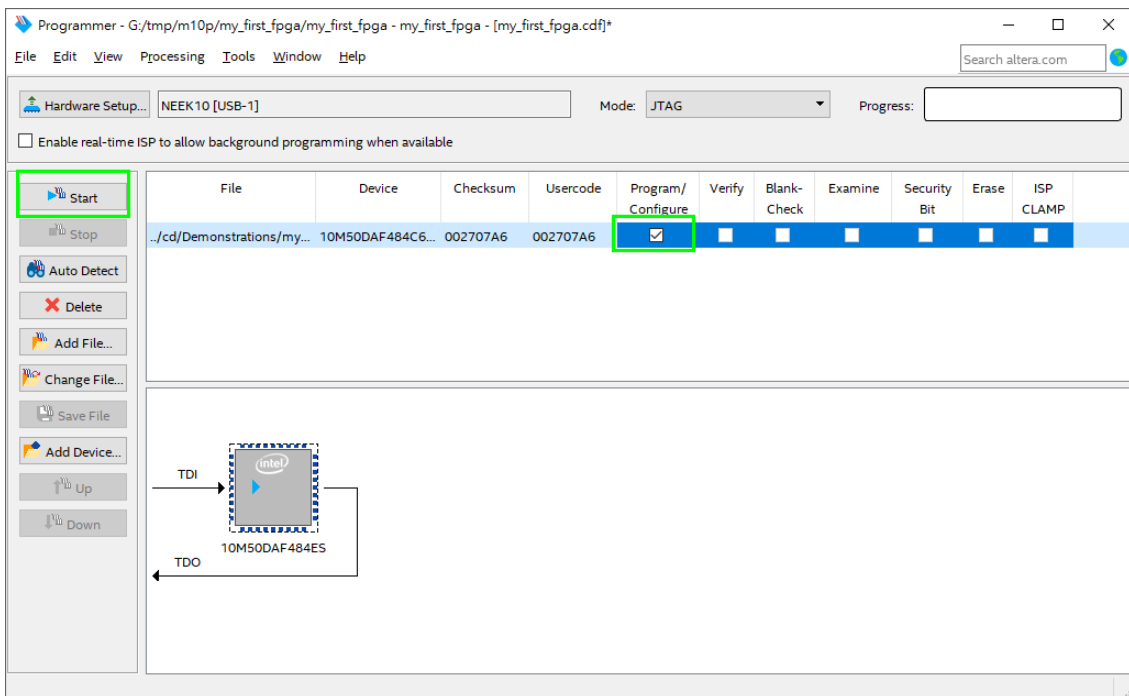

Figure 3-7 Program. sof File into the FPGA Device
6. Click **Program/Configure** check box and then click **Start** button to download the .sof file into the FPGA device, as shown in **Figure 3-7**.